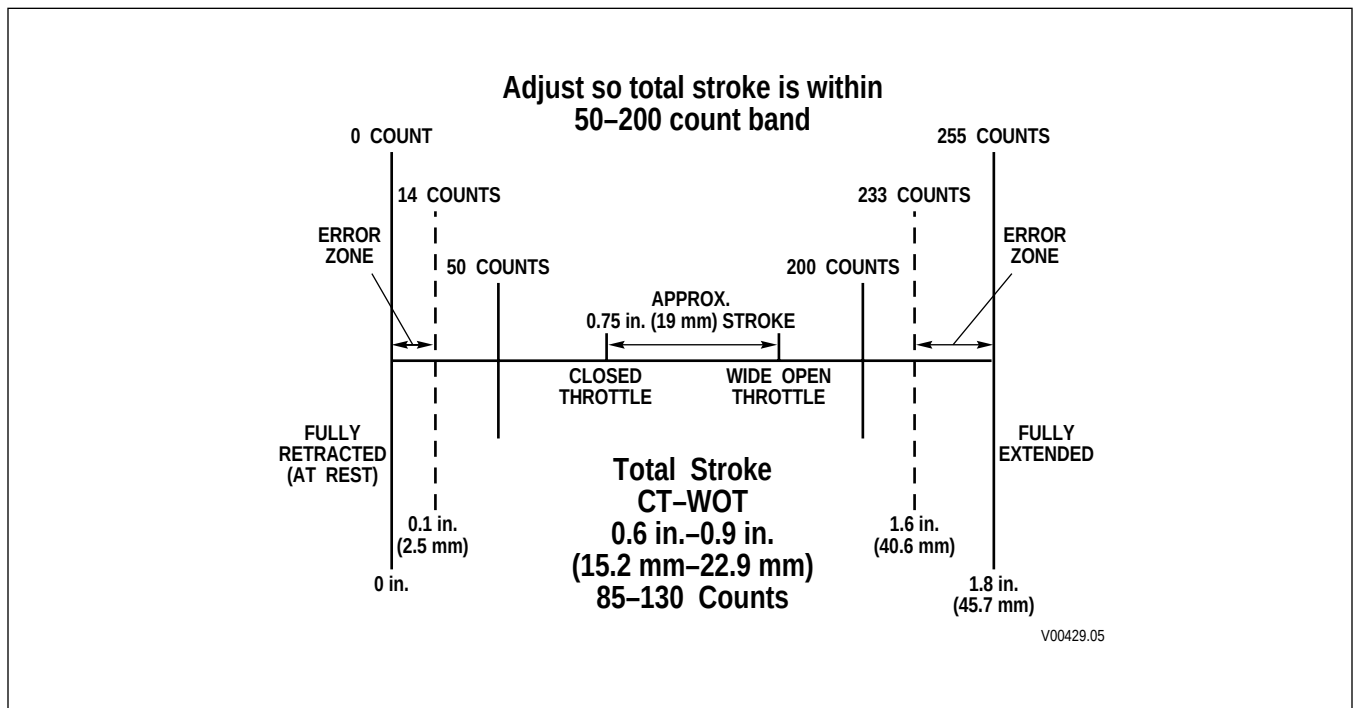

Figure D-2. Throttle Position Determination Diagram
2. Each position gives a different voltage. The ECU then converts the voltage to counts. Each count corresponds to approximately 0.007 inch (0.179 mm) of throttle sensor movement. Figure D-2 diagrams the counts and throttle movement relationship.
NOTE: *After replacing or adjusting the throttle position sensor linkage, the technician should use the diagnostic tool to clear the throttle calibration. Go to the DDR selection menu and locate ACTION REQUESTS. Select RESET THROTTLE CALIBRATION and ENTER to set the 0 percent throttle counts. After the idle counts are established, the throttle should be moved to the Full position to establish the full or Wide Open Throttle (WOT) position (100 percent). The full throttle counts will be the same as the idle counts until the throttle is moved. The full throttle counts are set when maximum travel is reached so stopping before actual full throttle will set the 100 percent point artificially low. Refer to Figure D-2 for proper counts and percentage. Refer to Figure D-3 for illustration of throttle position adjustment.*
When properly installed by the equipment manufacturer, the TPS should not require adjustment. Confirm that the throttle sensor is installed to manufacturer specifications before adjusting the throttle position sensor. The idle count should be 50 or higher and full throttle count 200 or lower. The TPS is self-calibrating meaning there is no optimum closed throttle or wide open throttle count value. As long as the counts are within the 50 to 200 range, the TPS is set properly. Total stroke of 85–130 counts must be maintained. Watch the movement of the throttle sensor as the controls move it through its full stroke. Be sure there is no misalignment or obstruction to smooth movement through the full stroke. Make certain the idle and full throttle positions are not in the error zones (refer to Figure D-2). The error zones occur when the idle position is less than 14 counts, or when the full throttle position is more than 233 counts. When idle or wide open throttle positions are in the error zones, codes 21 12 and 21 23 occur, respectively. These codes cause the transmission to shift as if the throttle is fully depressed (100 percent throttle) affecting shift quality and causing decreased fuel efficiency. Code 21 XX may be caused by a short or open circuit in the chassis harness or by incorrect voltages. If this occurs, refer to code 21 XX chart.